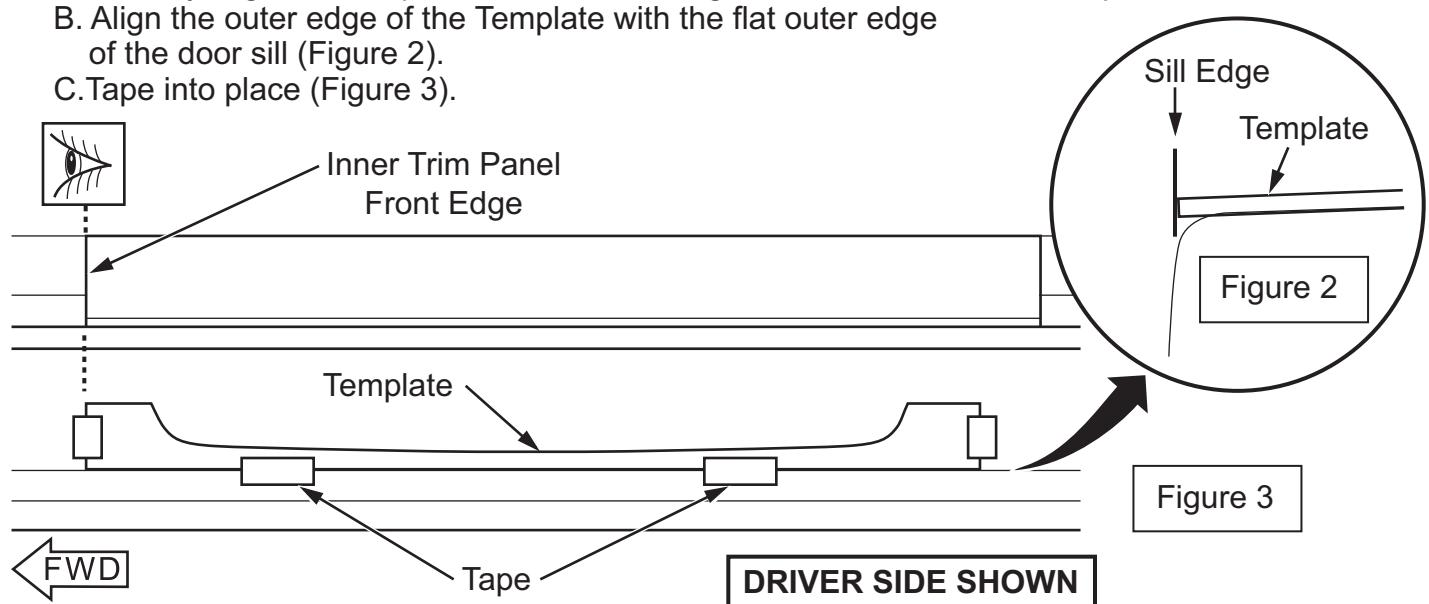

Figure 3
C. Tape into place (Figure 3).
- Tape into place (Figure 3).